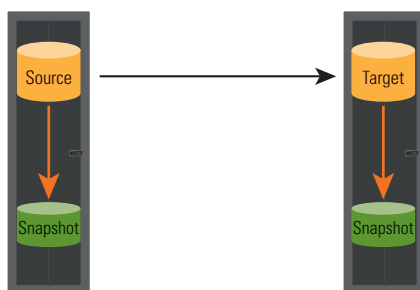

Figure 2. Integrating remote mirroring and local point-in-time copying
**Integration with point-in-time copying.** Best practices for rapid recovery call for at least two versions of production data at a recovery site: the active mirror and a full-volume point-in-time copy (see Figure 2). The ability to combine mirroring and point-in-time copying helps provide data recoverability for the broadest range of contingencies. This feature also provides application benefits by enabling a secondary server to mount a fully consistent readable and writable copy of the mirrored data and then perform operations such as decision analysis, application testing, or backup.